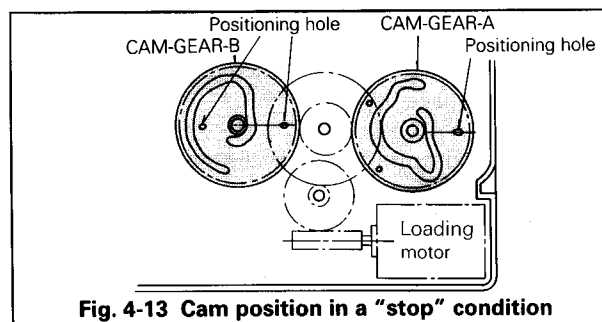

Fig. 4-13 Cam position in a "stop" condition
- Position cam gear (A) and cam gear (B), on the main plate, to the "stop" position as shown in Fig. 4-13. Assure that positioning holes are properly aligned.